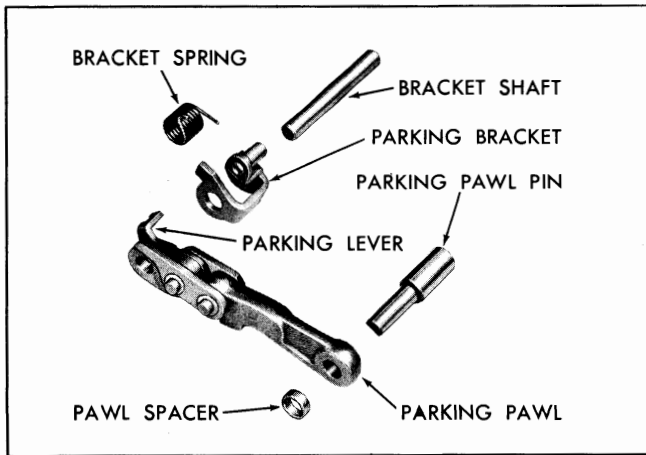

Fig. 7C-100 Parking Brake Assembly—Exploded
2. Lift hook end of bracket spring off parking lever and disassemble parts (Fig. 7C-100).